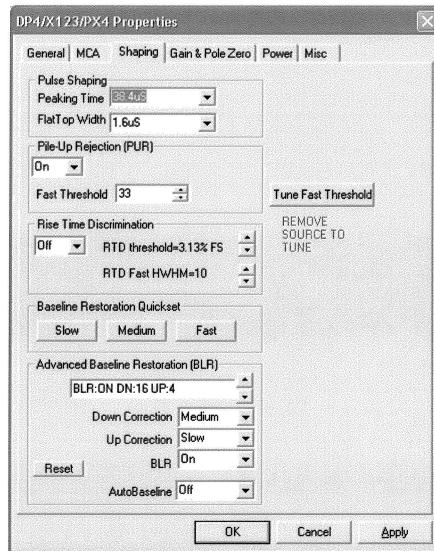

Figure 8: the Shaping tab
- Click ‘Start Acquisition’, go to ‘Acquisition Setup’, click the ‘Shaping’ tab (shown in Figure 8), click ‘Tune Fast Threshold’, click ‘OK’, then ‘Stop Acquisition’ and ‘Delete Data/Reset Time’. Go back to the Acquisition Setup window and click the ‘Shaping’ tab. Change the peaking time according to the specimen being used: for bulk specimens, use a low number in the 0.8 - 9.6us range; for thin specimens, use a larger peak time (typically >20us). Click ‘Apply.’